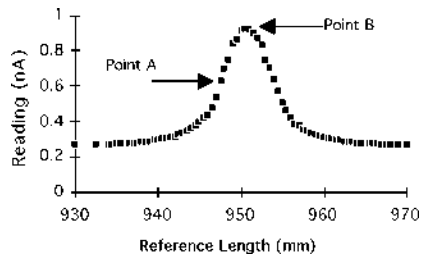

Figure 2: Representative response curve using HDR QA Tool insert of Fig. 1. The high slope region is designated A and the plateau region is designated B.
This response curve is shown in **Figure 2**. For checking positional accuracy, the high slope regions of Figure 2, designated point A, are the most useful. For checking dwell time and activity, a plateau, designated point B in Figure 2, rather than a peak is desired. With this tool, the source position verification, timer accuracy and consistency of the source activity can be measured in a simpler manner by using the method described below.
3. The first time the tool is used, take data to determine points A (slope) and B (plateau) as shown in **Figure 2** to document the position on the HDR system. Point A should be where the reading equals about 0.5 of the difference between the maximum value and the trough value. Point B should lie in the middle of the maximum plateau. Program the HDR unit to begin 40 mm from the bottom of the well, and move by the finest increments to 60 mm from the bottom, stopping for 10 seconds at each dwell position. Record the current reading at each position. If your HDR unit is unable to determine millimeter sized steps, reprogram the unit starting with different beginning locations to fill in the readings between the first set of dwell positions.